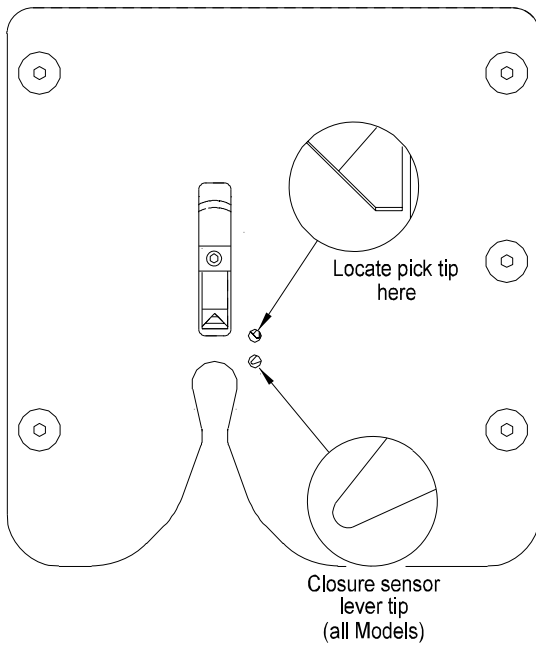

Figure 3.8
G. SENSOR LEVER STOP ADJUSTMENT: (Figures 3.8 & 3.9)
The sensor lever stop is a bushing which limits the travel of the sensor lever when no closures are present. The bushing is secured under a 10-32 buttonhead screw. There is clearance between the two, so the position of the bushing can vary. When no closures are present, the sensor lever tip should be centered below the inspection hole in the top track (Figure 3.8).
4. The tip of the pick should be visible in half of the inspection hole as shown (Figure 3.8). Reposition the pick if needed as follows:
7. Slide the motor assembly until the pick is in the proper position when viewed through the inspection hole (Figure 3.8).